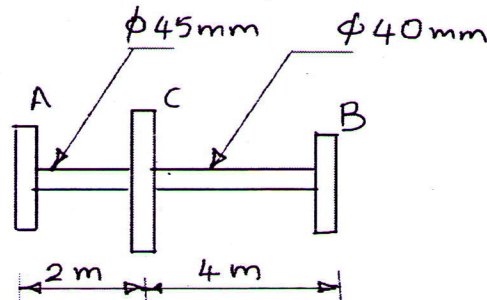

Figure 5
- c) Explain beat phenomenon. (2)
- 10 a) Derive an expression for the logarithmic decrement of an undamped single degree of freedom system. (4)
- b) Derive an expression for the forced response of an undamped system subjected to a harmonic force. (6)
- 11 a) Distinguish between Coulomb damping and viscous damping. (2)
- b) A reciprocating pump 200 kg is driven through a belt by an electric motor at 3000 rpm. The pump is mounted on isolators with total stiffness 5 MN/m and damping 3.125 kNs/m. Determine the vibratory amplitude of the pump at the running speed due to fundamental harmonic force of 1 kN. Also, determine the maximum vibratory amplitude when the pump is switched on and the motor speed passes through resonant condition. (8)
- 12 a) Determine the whirling speed of a shaft of 25 mm diameter and 0.8 m long with a mass of 1 kg placed at mid span, simply supported on short bearings at ends. The density of the shaft material is 50 g/cm3 and Young's modulus is  $2 \times 10^{11}$  Pa. (7)
- b) Explain i) vibration isolators and ii) vibration absorbers. (3)
- 13 a) With neat sketches explain the working of a i) seismometer and ii) vibration exciter (7)
- b) What do you mean by eigenvalues and eigen vectors in the case of a multi degree freedom vibrating system? (3)
- 14 a) What do you mean by a torsionally equivalent shaft? (3)
- b) Find the natural frequency of torsional vibration of the system shown in Fig. 5. Shaft connecting rotors A and C is of 45 mm diameter, whereas that connecting rotors C and B is of 40 mm diameter. Mass moments of inertia of A, C and B are 50, 100 and 75 kgm2 respectively. The modulus of rigidity,  $G = 84 \times 10^9$  N/m2. Rotors A and B rotate in the same direction, while C rotates in opposite direction. (7)